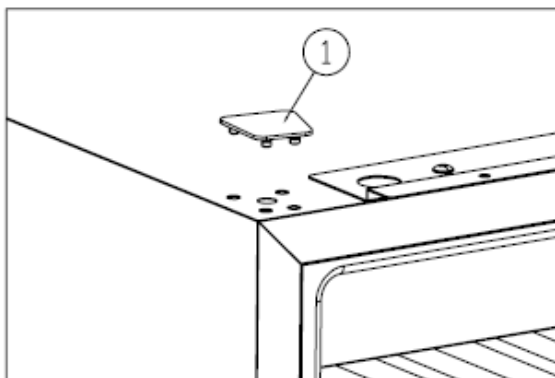

Figure 3
- ✧ Remove the germinal lid ①. [Figure 3]